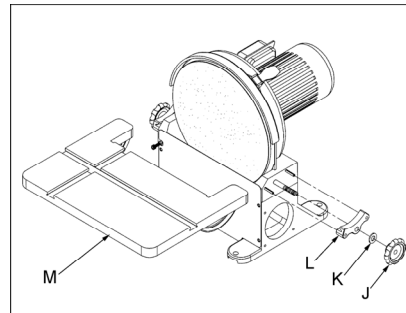

Fig 7
Remove the knobs (J, Fig 7) washers (K), trunnion holders (L) and the machine table (M).